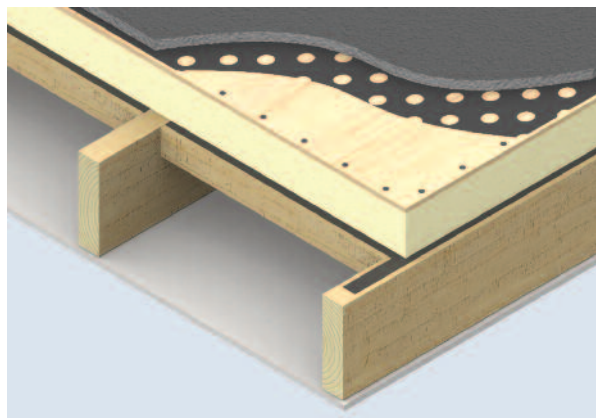

Figure 2 – Sheets laid into non setting mastic
- In order to form a continuous vapour control layer from the foil underside of the sheets of *Kingspan Thermaroof*® TR31, a bead of water vapour resistant, non-setting, gun-grade mastic sealant, wide enough to accommodate two sheet edges butted side by side, should be applied to the upper surface of all supporting joists and noggins (see Figure 2).